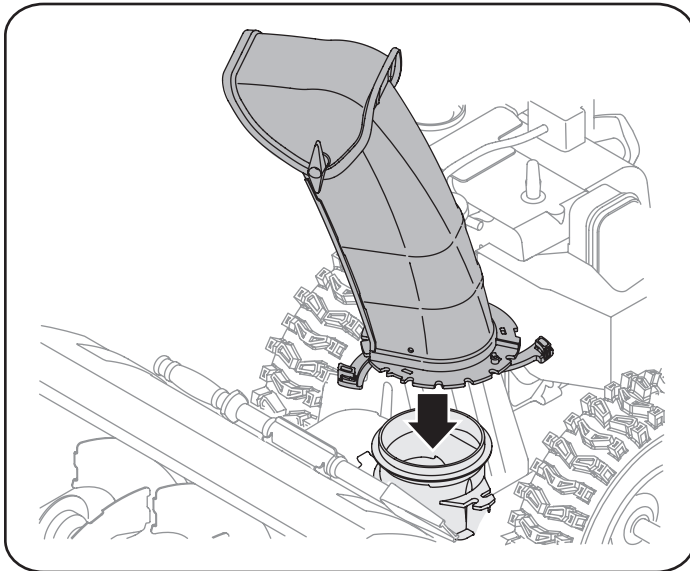

Figure 3
3. Position the chute assembly over the base. See Figure 3.